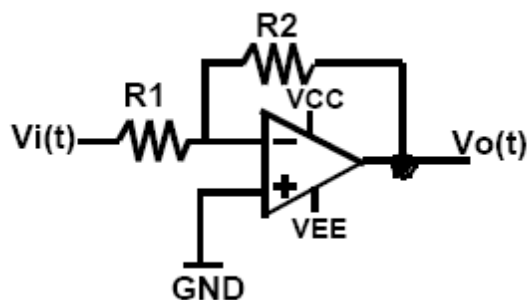

Figure 1. Inverting amplifier.
For the circuit in figure 1 with power supplies $V_{CC} = 12.0\text{ V}$, $V_{EE} = -12.0\text{ V}$, and assuming the opamp is ideal, answer the following questions:
Build the circuit in Figure 1 using power supplies +12.0 V, - 12.0 V and the resistor values from your design in the Pre-lab, section 6.1 item 1.